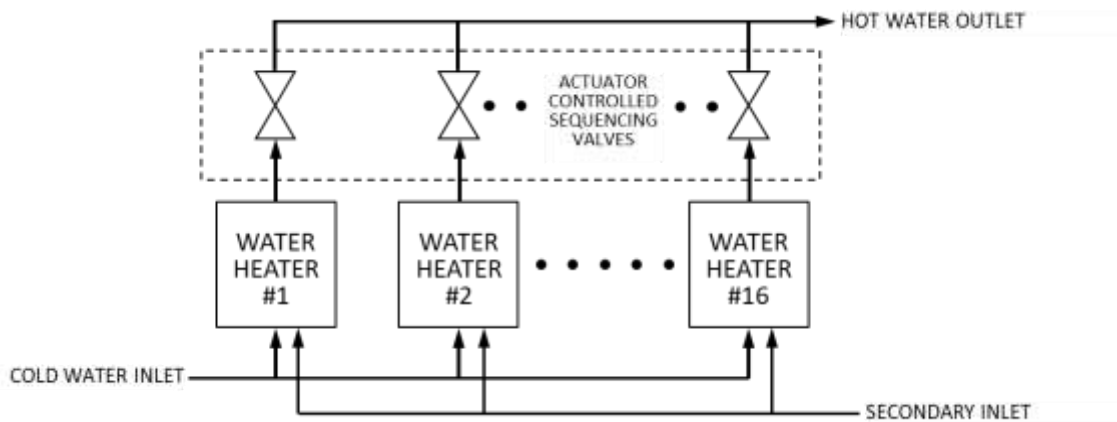

Figure 8-1: Simplified Block Diagram - Water Heater Management (WHM)
The on-board Water-Heater Management system (WHM) feature is integrated in the Edge Controller, designed to stage and coordinate multiple Centurion Water Heaters while maximizing operational efficiency. The WHM software code resides in each Edge Controller that is part of the system. The WHM system can control up to sixteen (16) Water Heaters in parallel. Each Water Heater controlled by the WHM system must be equipped with an actuator-controlled Sequencing Isolation Valve (P/N **92154C**). This valve is installed on the outlet of each Water Heater in the WHM network (see Figure 8-1, below).